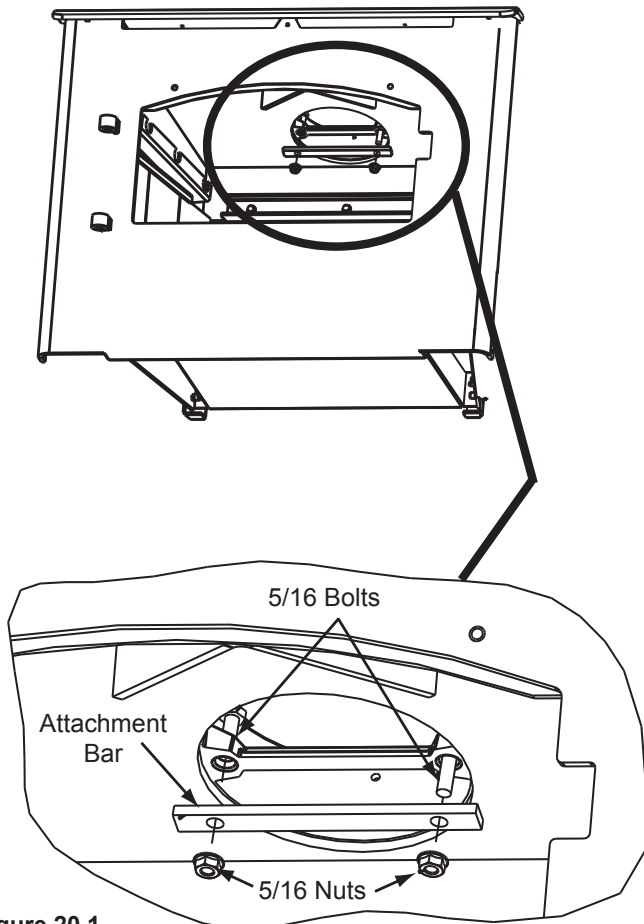

Figure 20.1
1. Once you have the appliance in place and secured, reach up through the flue opening and grab the attachment bar and pull down inside flue opening (**Figure 20.1**).